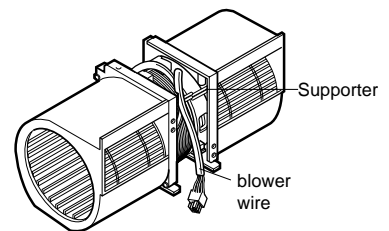

Figure 12
4. Reassemble the blower wire. The blower wire must be replaced under the supporter. See Figure 12.